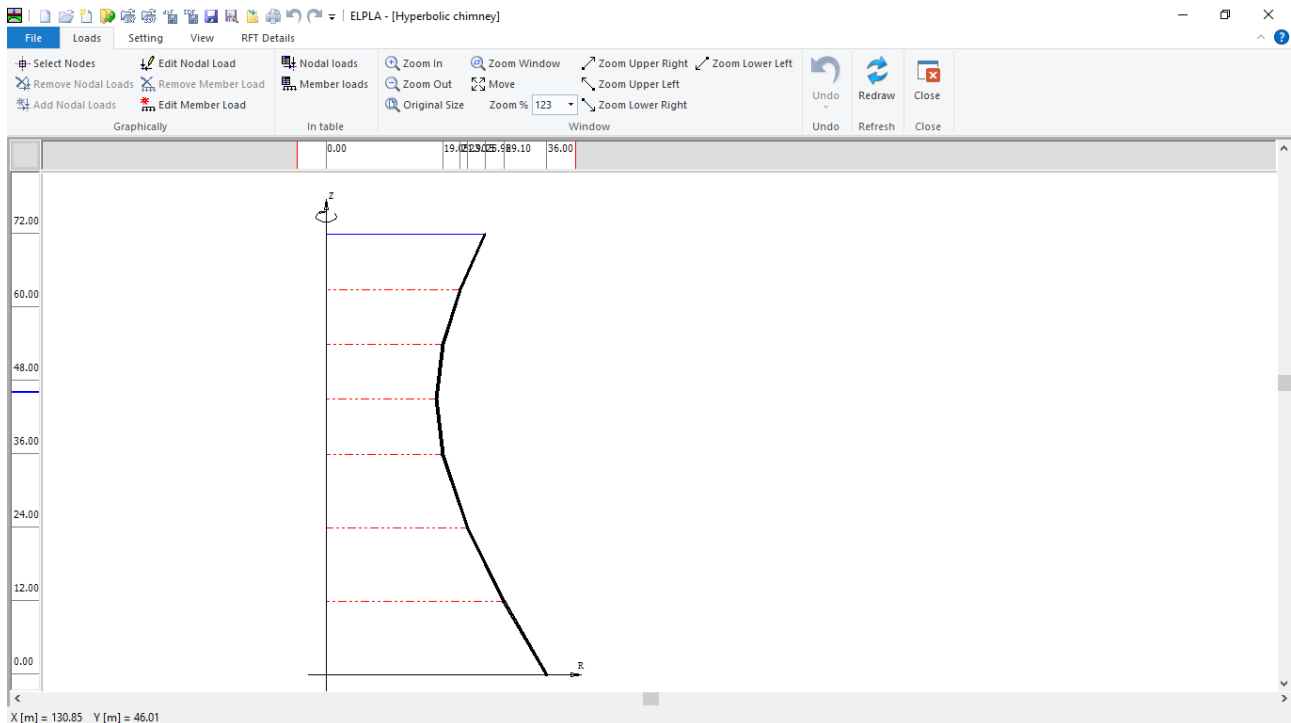

Figure 11.21 "Loads" Window
To define the loads, choose "Loads" command from "Data" Tab. The following window in Figure 11.21 appears.
In *ELPLA*, entering loads may be carried out either numerically (in a table) or graphically using the commands of "Loads" Tab in Figure 11.21. In this example, the hyperbolic chimney is exposed to a uniform external pressure of  $p_s = -10$  [kN/m2].
- choose "Edit Member Load" command from "Graphically" menu in Figure 11.21. When "Edit Member Load" command is chosen, the cursor will change from an arrow to a cross hair
- Choose "Save" command from "File" menu in Figure 11.21 to save the load data
- Choose "Close" command from "File" menu in Figure 11.21 to close the "Loads" window and return to *ELPLA* main window.